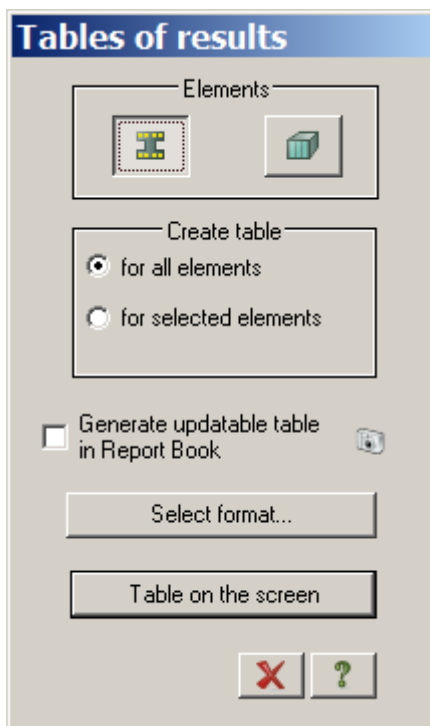

Figure 6.22 **Tables of analysis results** dialog box
- ⇒ In the **Tables of analysis results** dialog box (see Fig.6.22), click the **Plates** option in the **Elements** area. Option **For all elements** in the **Create table** area is selected by default.